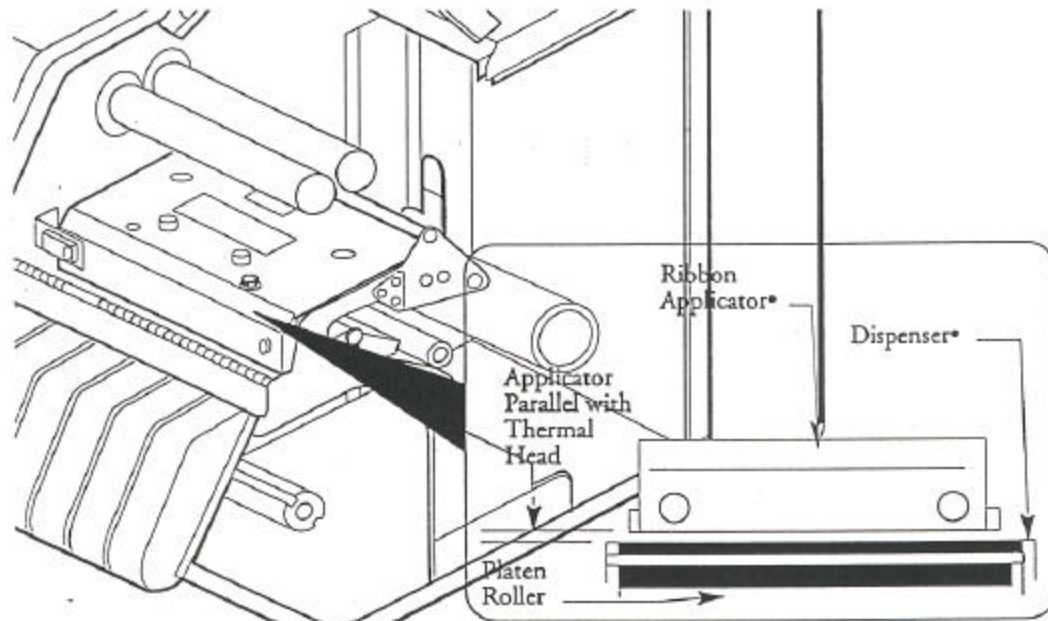

Figure 8. Thermal Head Alignment
8. Check to see if the bottom edge of the ribbon applicator aligns to the bottom edge of the thermal head. (See Figure 8) If not, adjust the alignment following Steps 5 through 7. The right h/s screw is used for adjustments.